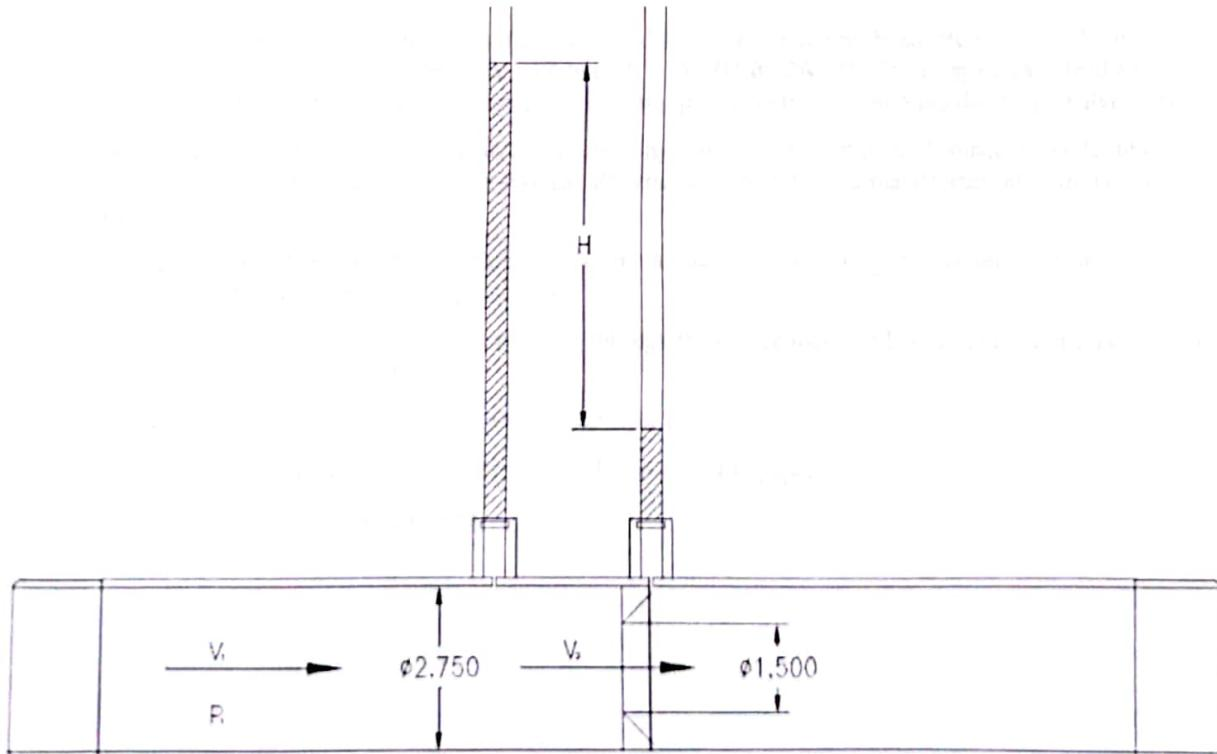

Figure 1 Orifice plate
- $A_2$ : area of orifice ( $\text{ft}^2$ ) (Fig. 1) =  $0.01227 \text{ ft}^2$